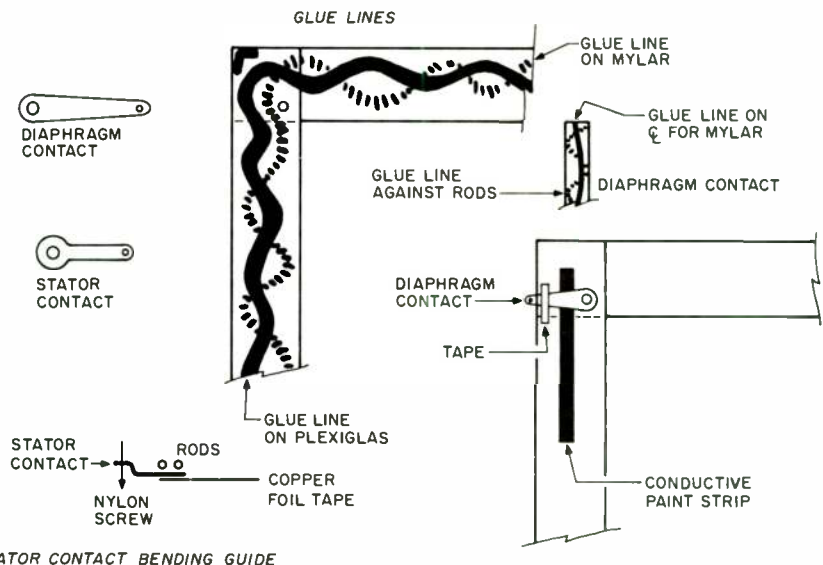

FIGURE 2: Construction details.
**ESL JIGS.** J1 (Fig. 1) is a strip of Plexiglas  $\frac{1}{16}$  inch thick with two alignment holes for uniform placement of the panel electrical terminus holes and to assist in final assembly stator alignment. Size the contact screw hole to fit your hardware. The prototype uses 4-40 screws  $\times \frac{3}{4}$ " screws. Its location depends on your hardware. To place the hole properly, bend one stator contact (Fig. 2) and temporarily place it on the frame. Then place the diaphragm contact over it, making sure it extends a suitable distance from the frame's outside edge. Place J1 over the two contacts and at the junction of the cap strips. Mark, then drill this template hole. Do this anytime prior to attaching the longerons.